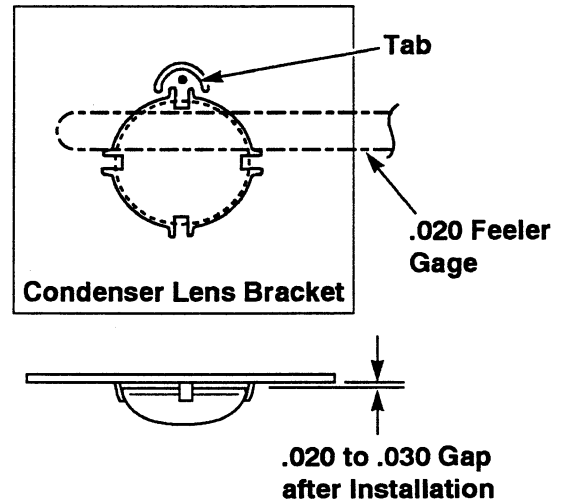

Figure 5-15. Condenser Lens
1. Insert a probe (i.e. small drill bit or nail) into the hole in the Tab. Figure 5-15 .